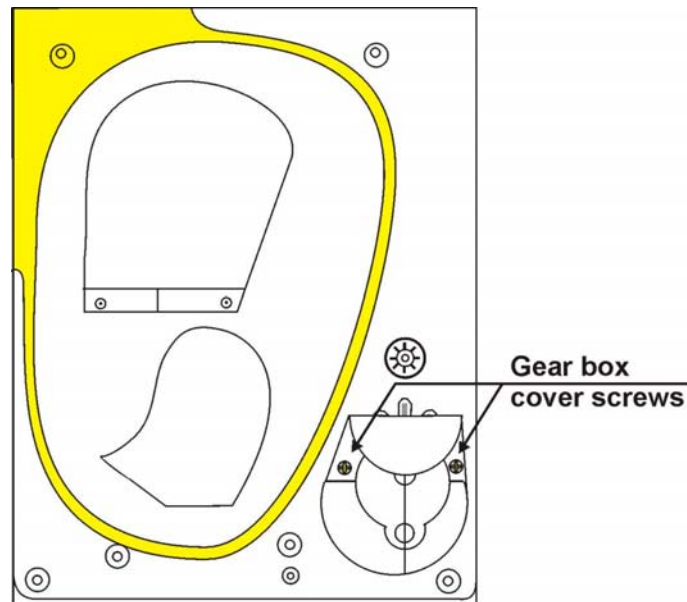

Figure 16: Gear Box Cover position
3. Unscrew the 2 gearbox cover screws & remove the cover. Figure 16.